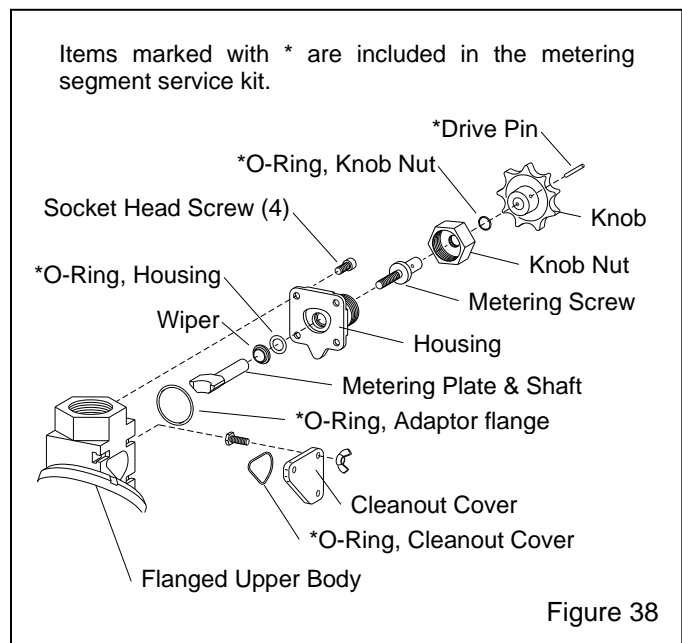

Figure 38
7.6 Auto Quantum Metering Valve - Metering Segment – Figure 38
7.6.14 Place a new O-ring and wiper seal in the housing, as shown in Figure 38. The small side of the wiper seal faces away from the O-ring. A generous amount of silicone-based lubricant eases installation.